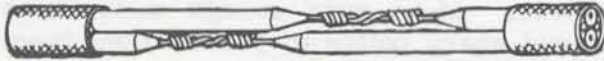

Figure 7
2. Now make two common splices, one for each conductor. The splices must be staggered, so that each splice comes alongside unbroken insulation on the other conductor (Figure 7). If you put the splices side by side there will be danger of their shorting out, and your splice will be bulky. Do this by cutting one wire shorter than its twin. Do this on both pieces of twin conductor. In splicing, match the short end of one wire with the long end of the wire to be joined to it. On twin conductor, each splice is taped separately, then wrapped together with additional tape.